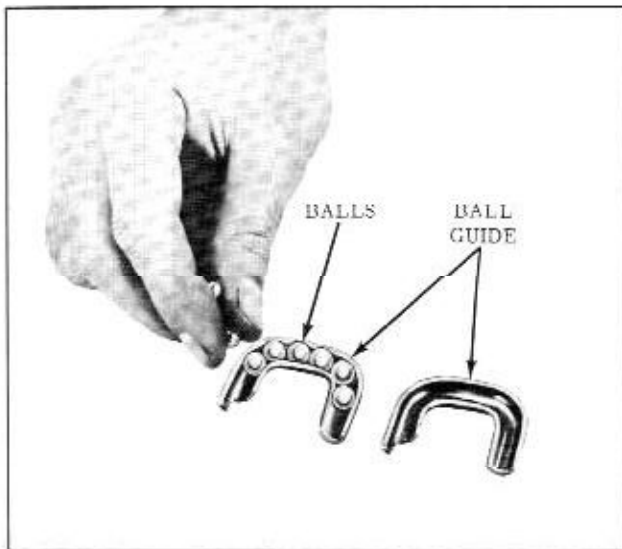

Fig. 4-40 Installing Balls in Guides
3. Lay one-half of the ball guide, groove up, on the bench and place the remaining balls from the count container in it (Fig. 4-40).